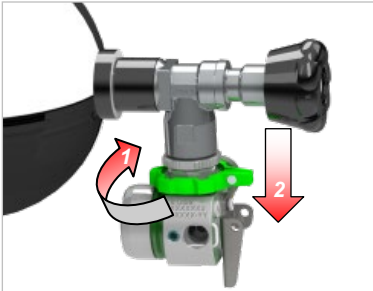

Fig. 18 Removing a cylinder with *alphaCLICK 2*
- (3) Close cylinder valve(s) and release air from pneumatic system of the SCBA with lung governed demand valve.
- (4) For compressed air cylinders with *alphaCLICK 2* turn the handwheel on the coupling side (arrow 1) in a clockwise direction first (→ Fig. 18) and then, when closed up to the stop, push downwards in the direction of the pressure reducer (arrow 2).